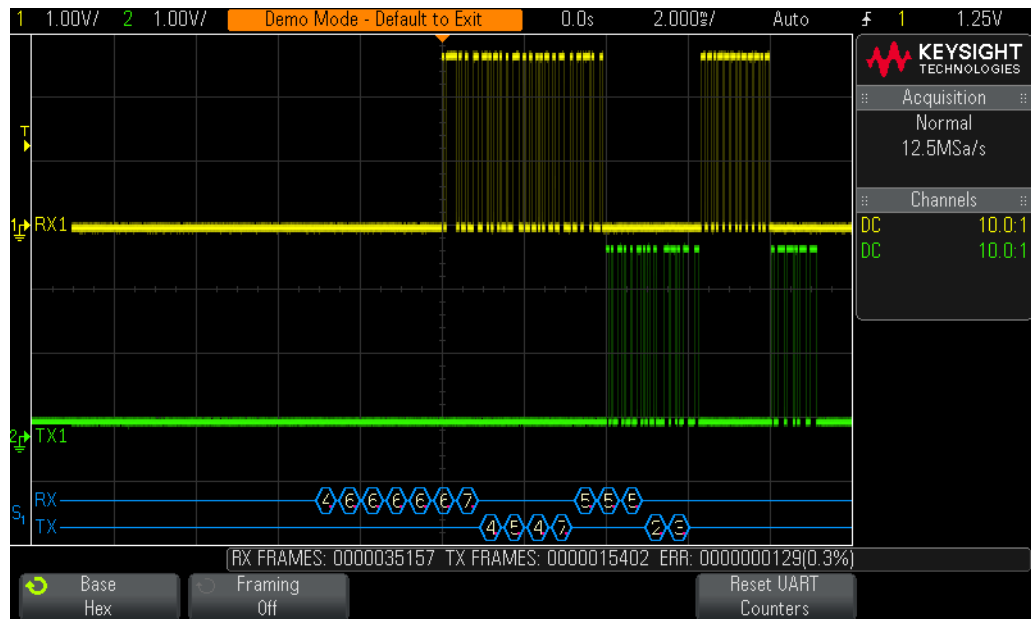

Figure 44 Decoding the RS232/UART serial bus.
You should now see RS232/UART decoding of these signals on your scope's display similar to **Figure 44**, but we still haven't established stable triggering. The scope is still triggering on any rising edge of channel-1 (default trigger condition). Let's now set up the scope to trigger when the transmit data signal (TX) is equal to 4D_{HEX}.